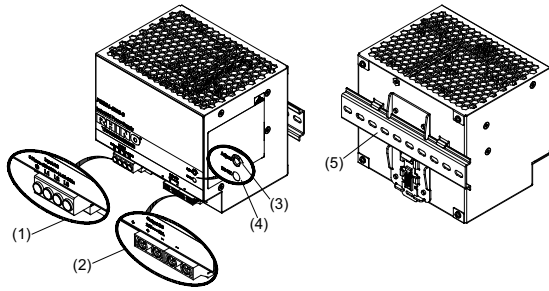
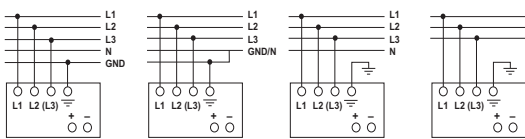

Figure 1
Figure 5
2. Device description (Fig. 1)
5.1. Input connection (Fig. 1, Fig. 5)
Use L1, L2, L3 with GND connections of input terminal connector (See Fig. 5) to establish the 3 x 400-500VAC connection. Fig. 5 shows the connection to the various network types.
5.2. Output Connection (Fig. 1 (2))
Use the "+" and "-" screw connections to establish the 24 VDC connection. The output provides 24 VDC. The output voltage can be adjusted from 24 to 28 VDC on the potentiometer. The green LED DC OK displays correct function of the output (Fig. 1 (4)). The device has a short circuit and overload protection and an overvoltage protection limited to 35 VDC.